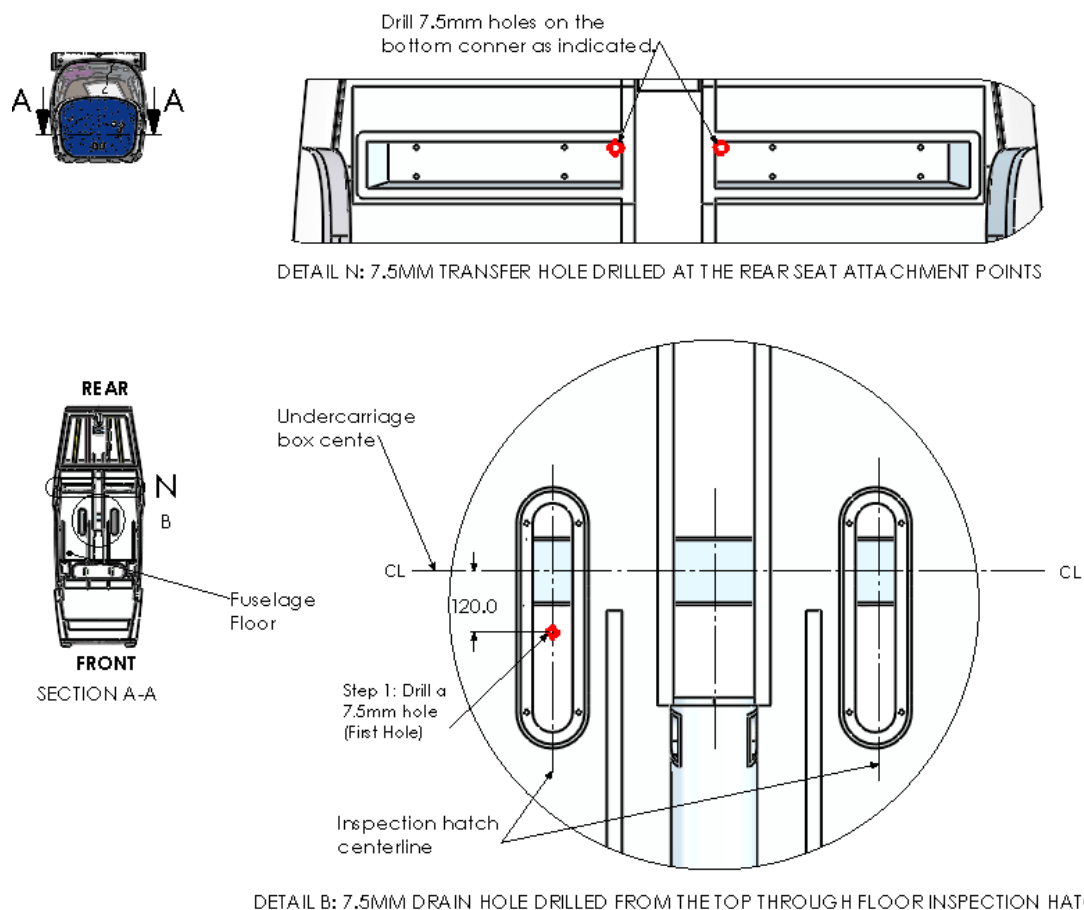
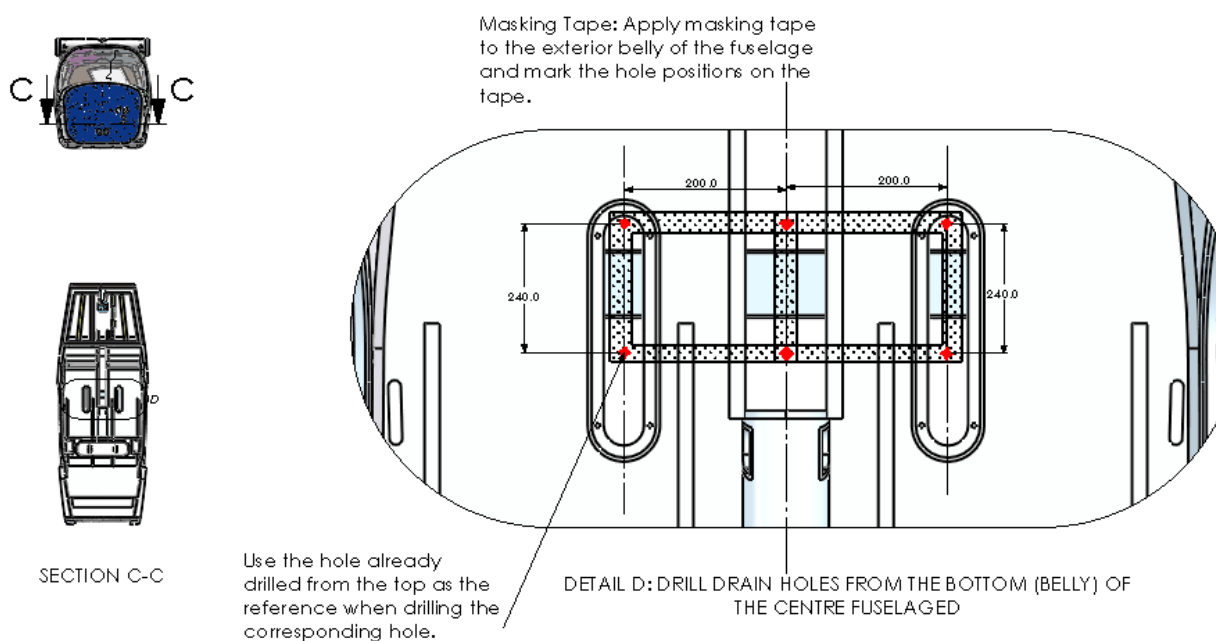
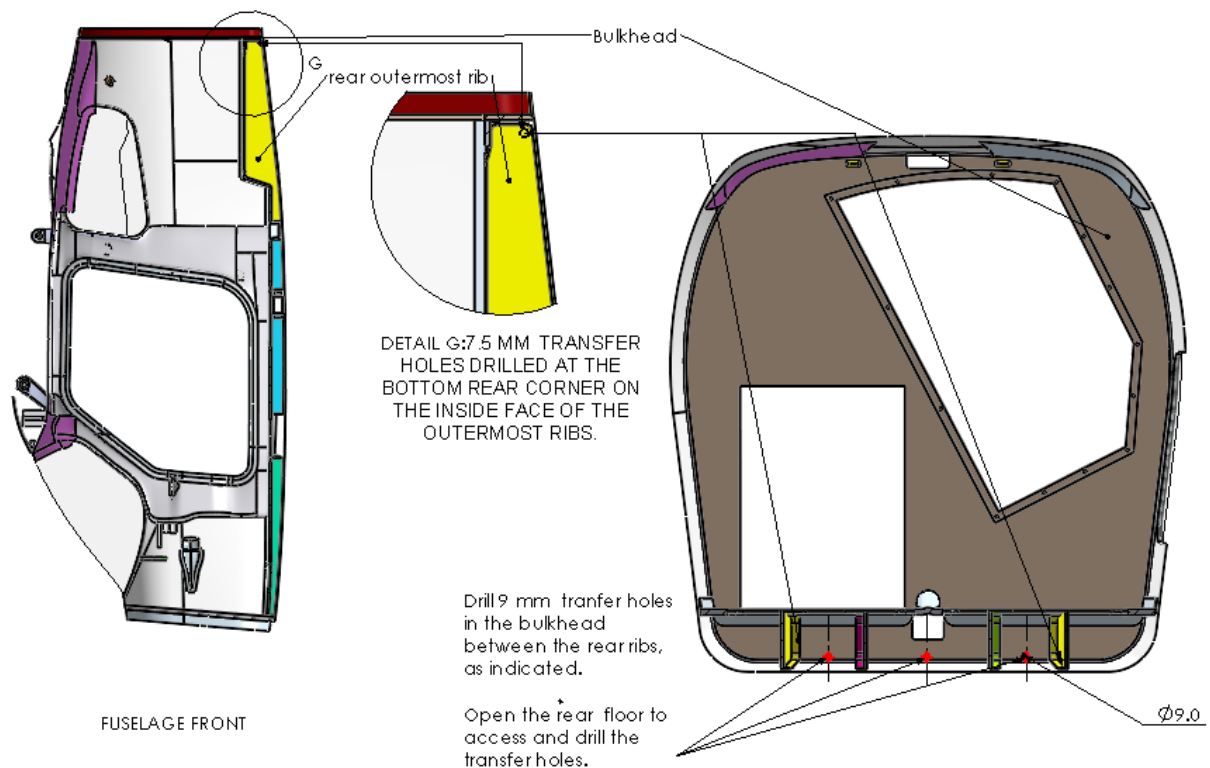
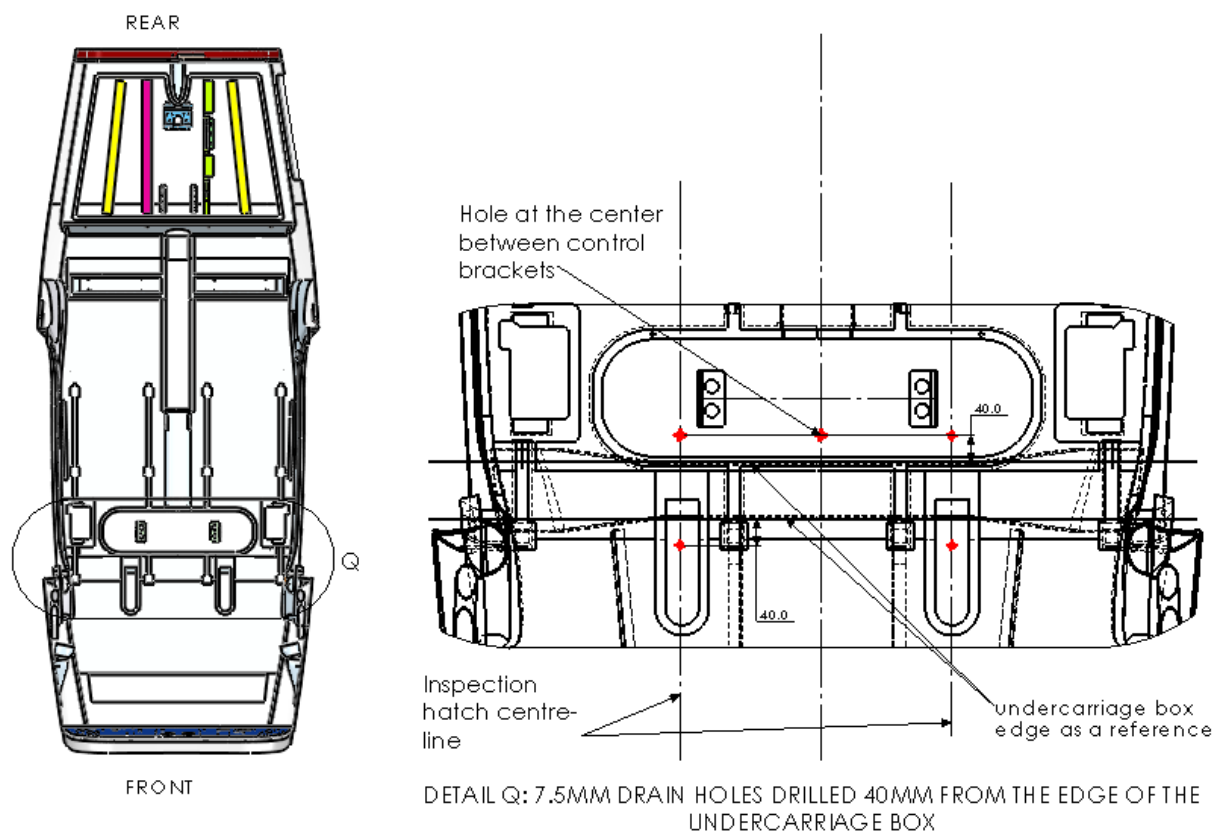

Figure 4: Tricycle drain hole drilling instructions (First Step)
Figure 5: Tricycle drain hole marking and drilling instructions
Figure 6: Bulkhead and inter-rib transfer holes marking and drilling instructions (Both Configurations)
Figure 7: Taildragger marking and drilling instructions
The holes for the tricycle configuration shall be in accordance with the below bullet points (also refer to Figure 4 and Figure 5).
Refer to Figure 4 and Figure 6
Refer to Figure 7
- Mark all drain and transfer hole locations per Figure 4, Figure 5, Figure 6 and Figure 7 using fine-tip permanent marker
- ♦ Aircraft configuration and production revision may affect internal structure: Always verify the aircraft structure corresponds with Figure 4, Figure 5, Figure 6 and Figure 7 before drilling